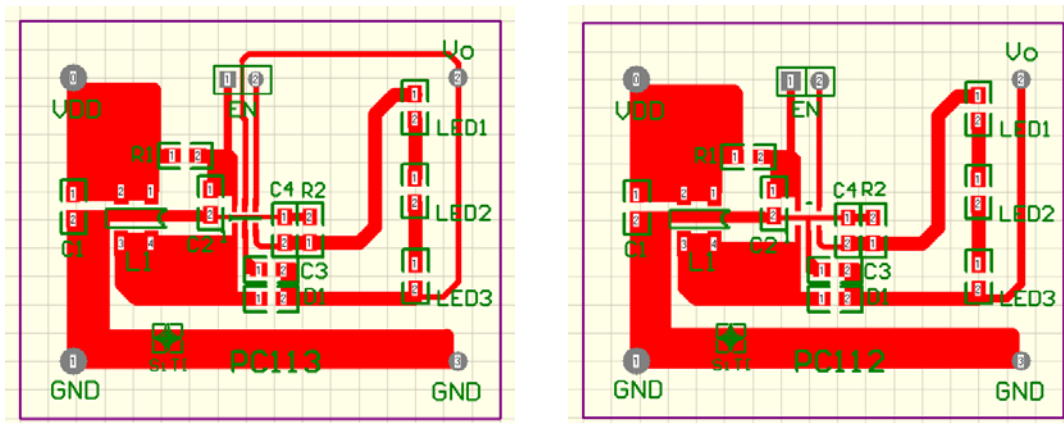

Fig. 6
4. Fig. 6 shows the exemplary test board layout. (Reference page4. typical application circuit)